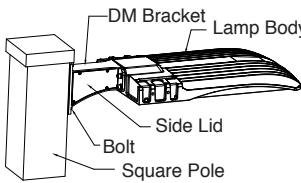

Figure 3-2
2. Fix the direct bracket to the square pole with bolt. Connect the power cable to the pole cable, make sure good protection on the wire connection, and put the wire in the direct bracket; close the side lid and tighten it, (Figure 3-2) then finish in installation.